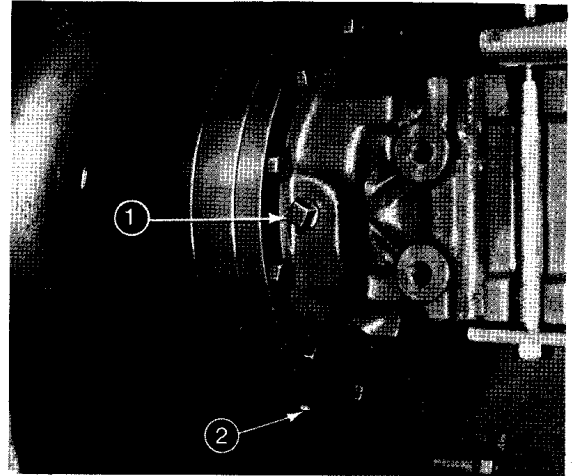

FIG. 23
The oil level must be maintained at the level of the filler plug (1, Fig. 23).
2. Fig. 23. Remove the drain plug (2) and the filler plug (1).
3. When the oil has fully drained, refit the drain plug (2).
4. Fill the hub with an approved oil, to the level of the filler plug (1), then refit the plug.